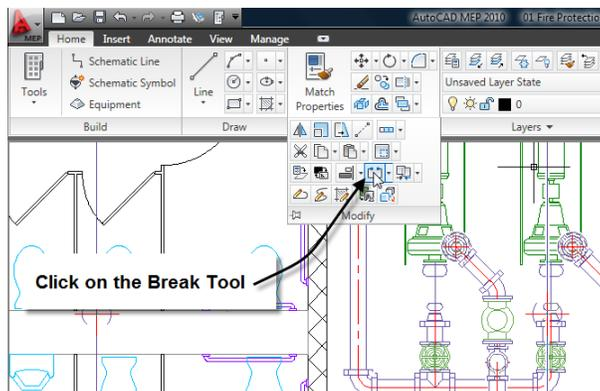

Figure 6.53
- Click the Break tool (see Figure 6.53).